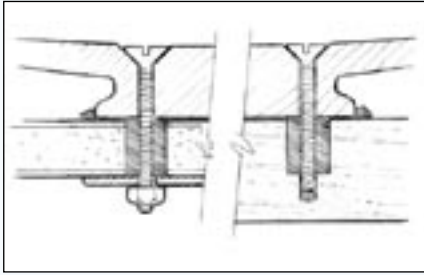

Figure 18 Tighten the fasteners until a small amount of epoxy squeezes from the joint.
- Place the hardware in position. Insert and tighten fasteners until a small quantity of mix squeezes out of the joint (*Figure 18*).